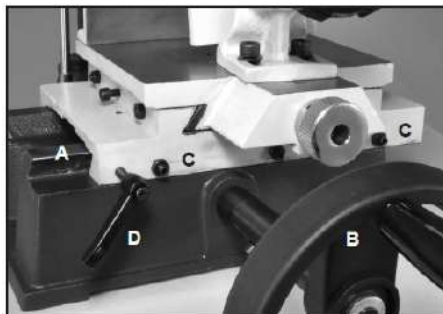

Fig 18
The lower supporting Sliding Plate (#52) adjusts the top table left and right on a separate set of dovetail ways. FIG. 18, A. The front Hand Wheel (#33) (B) controls the side-to-side table movement.
1. To tighten or loosen the movement of the sliding plate, pressure on the dovetails can be adjusted with the 3 Screws and Nuts (# 47, 48) that are located in the front of the sliding plate. FIG. 18, C. These put pressure on the Drift Plate (#24) which rests against the plate's dovetails.
2. To secure the sliding plate in one spot so that it will not move, the Handle Screw (#49) (D) can be fastened down. This is recommended for repetitive drilling in a single location on multiple work pieces.